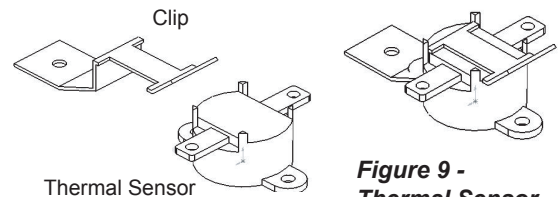

Figure 9 - Thermal Sensor Installation
NOTE: There are two (2) thermal sensors packed in this kit. Be sure to install the correct sensor. *Figure 9*
The sensor holding clip is located behind the square plate on the end wall closest to the pilot. There is one on each side. Choose the one on the same side as the speed control. Remove the two (2) outer screws holding the plate and remove from wall. Replace gasket if needed with new gasket provided. Slide the thermal sensor into the clip until it snaps in place. Make sure the terminals on the thermal sensor are perpendicular to the clip. *Figure 9*. Route the two (2) sensor wires down through the blower air channel to the lower access area. Reattach the sensor plate to wall.